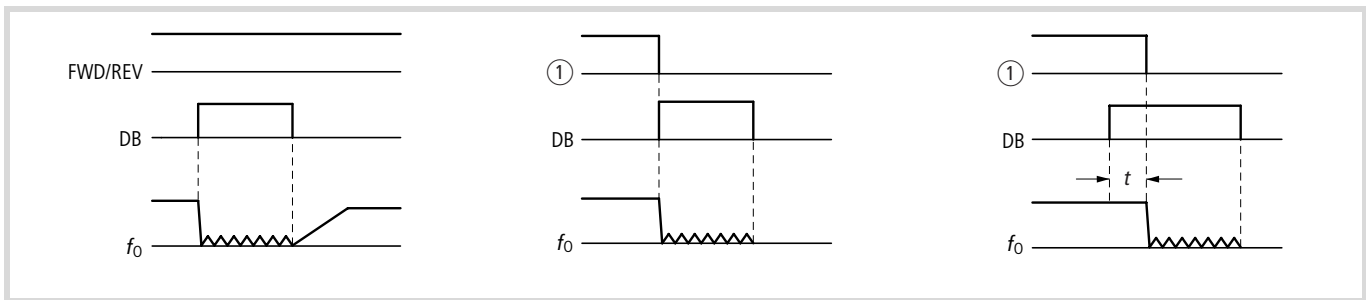

Figure 77: Function chart for DB (DC braking)
① Start signal through keypad
- ▶ In PNU A053, enter a delay time  $t$  (→ fig. 77) from 0 to 5.0 s, which is to expire before DC braking takes effect after activation of the DB input.